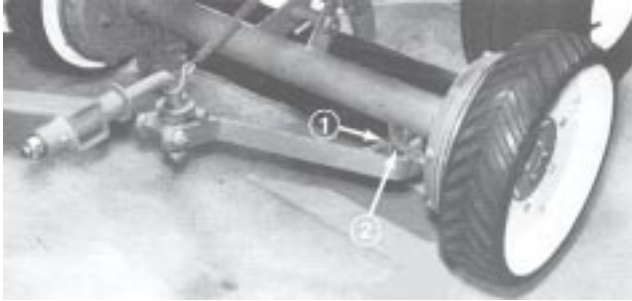

Figure 15
1. Align holes in drawbar with brackets on mower cross-tubes. Secure each side with 1/2–13 x 3–1/2” lg. capscrew, spacer tube and 1/2–13 locknut (Fig. 15).